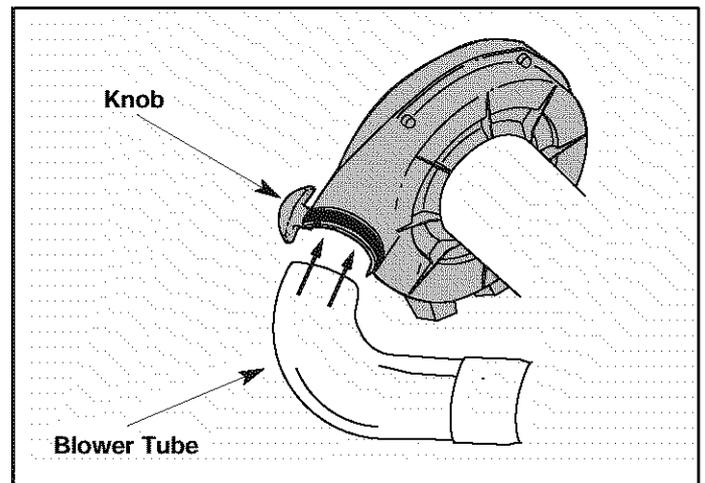

Fig. 4
3. Install the blower tube and tighten the knob. (Fig. 4)